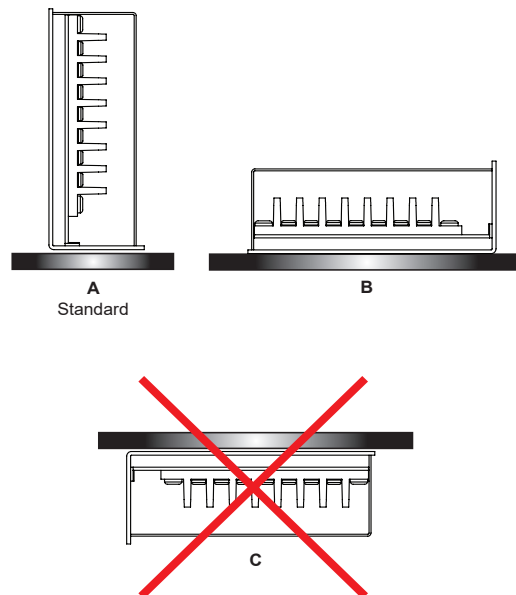

Figure 4. Mounting Options
**Figure 4** shows various mounting configurations. The standard method (A) is recommended. Configuration B also works. Do not use configuration C, where the PCB is on the top and heat is trapped within the unit.